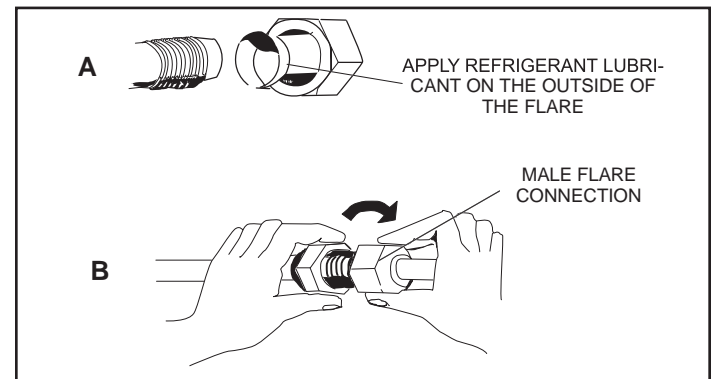
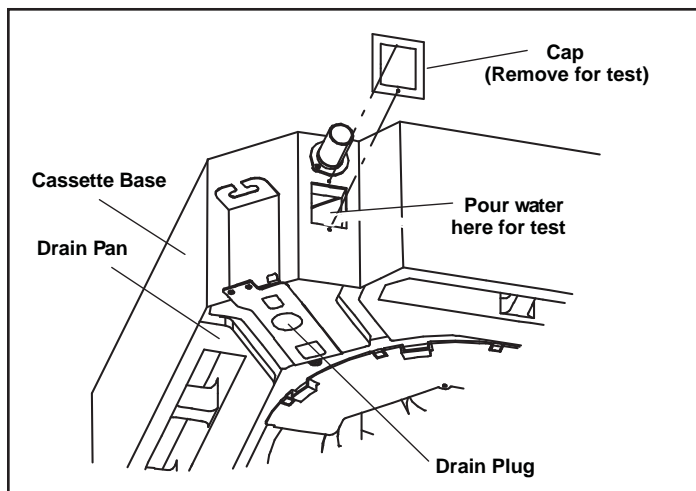

Figure 3. Making Connections (Male to Female Connection)
Figure 9. Test Condensate Drain
6. If the unit is being installed in an application that includes a sheet rock (plasterboard) ceiling, it is required that an access panel be installed in a suitable location. This will also allow access for future maintenance (requirement of Lennox warranty program). Access is required during the commissioning process to test the condensate disposal system (See figure 9), to check the electronic expansion valve and associated flare nuts (See figure 3), and to check the local disconnect.
5. Apply recommended HFC-410A refrigerant lubricant to the outside of the flared refrigerant lines (figure 3-A).
6. Align the threaded connections with the flared refrigerant lines. Tighten the flare nuts lightly at first to obtain a smooth match (figure 3-B).
6. After system installation is complete, the condensate drain line must be checked for leaks and the condensate pumps must be checked to ensure proper operation. This check is part of the commissioning sequence. Pour water into the evaporator drain pan to ensure proper condensate drainage. See figure 9. If a leak is found, shut down power to the unit at once and do not restore power to the unit until the problem has been resolved.